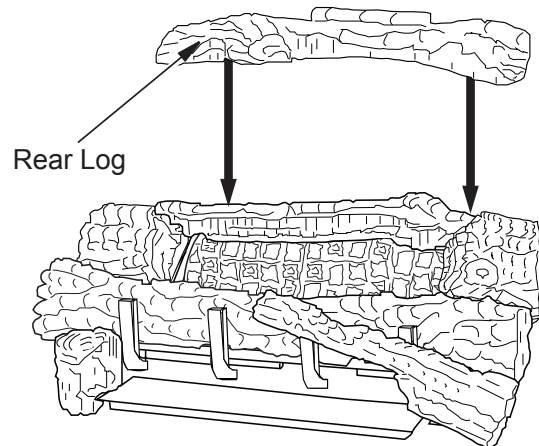

Figure 34 - Installing Rear Log
- Rest rear log in back corner sections of chassis assembly as shown in **Figure 34**.